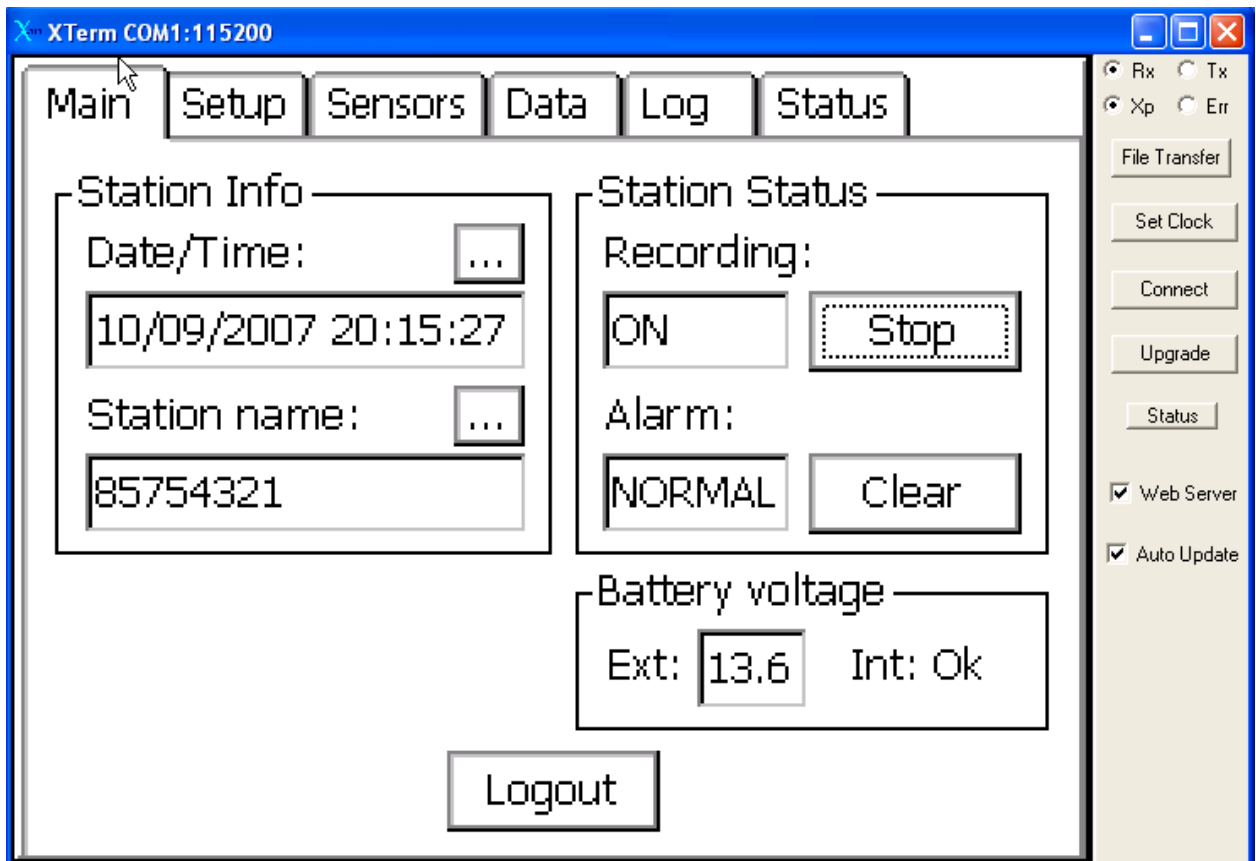

Fig 18. Xpert Main Page
13. Under the *Station Status* section press the *Start* button (Fig 18). The system will now save the changes that you have made and start the recording of data.